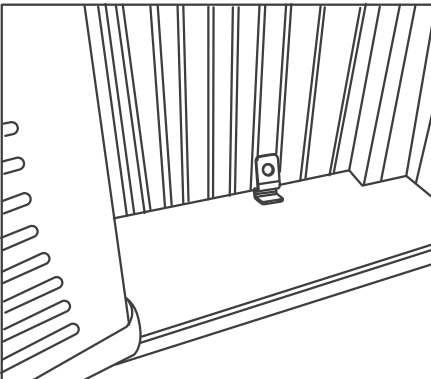
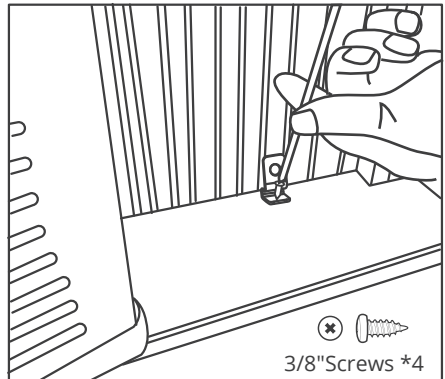

Fig.9
Fig.10
- Place the frame lock between the extended accordion panels and the window sill as show in Fig.9. Screw a 3/4" (19mm) locking screw through the frame lock and into the window sill. (Fig.10)